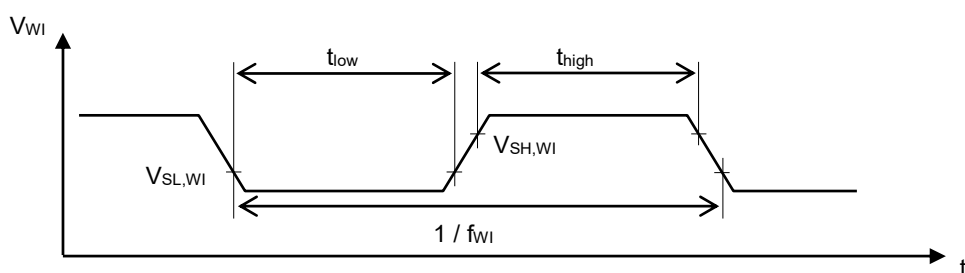

Figure 5
*2. When inputting a rising edge that satisfies the condition of Figure 5 to the WI pin, the watchdog timer detects a trigger.
The signal input from the monitored object by the watchdog timer should satisfy the condition of Figure 5.